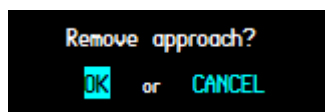

Figure 7.27
7.3 click on the ENTER key to display a window prompting to perform the function or cancel (Figure 7.27).